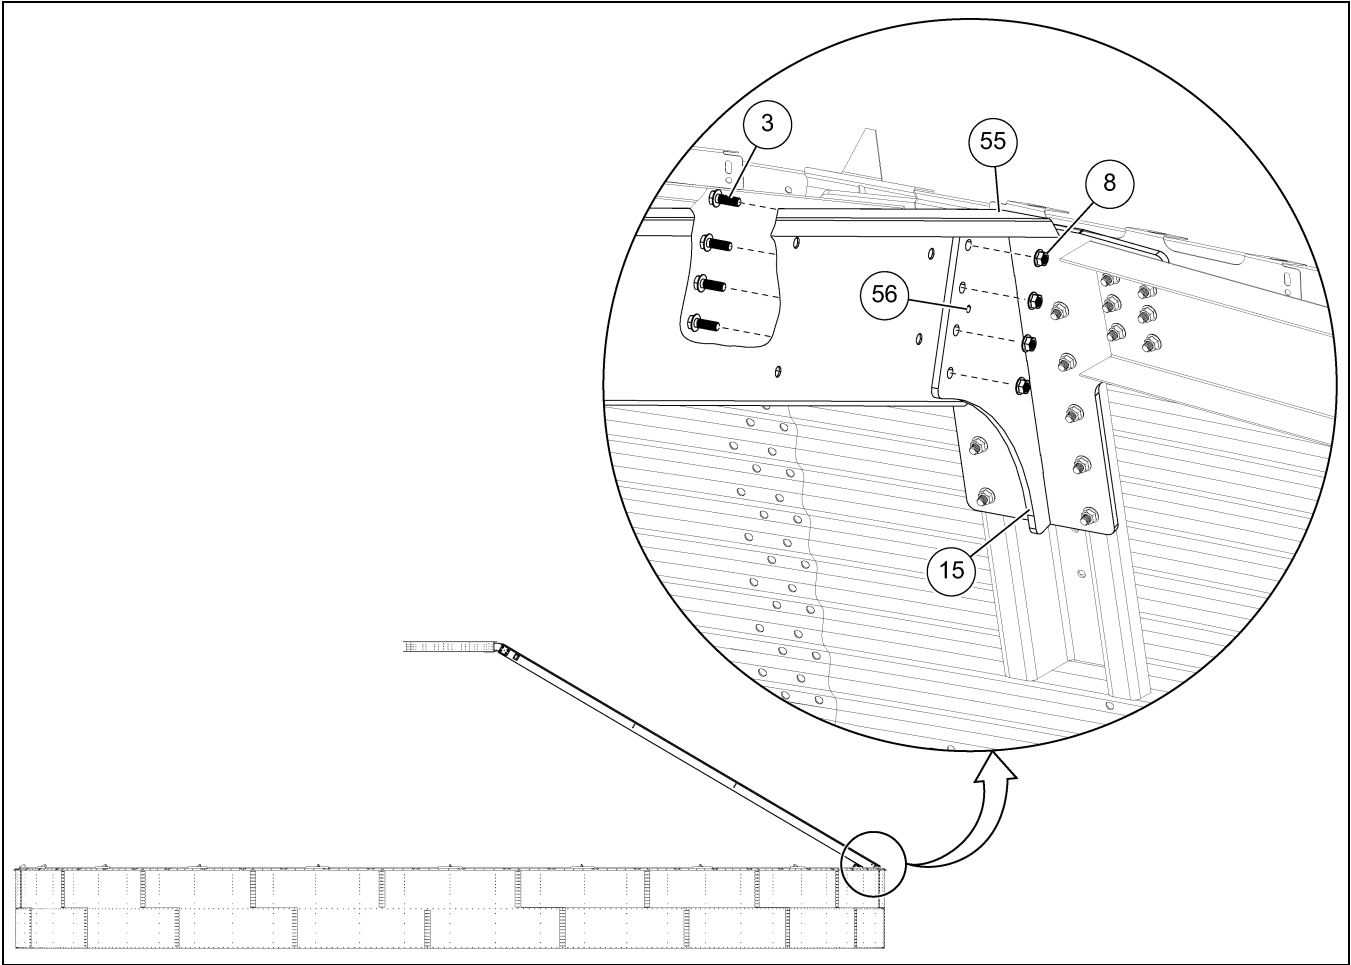

Figure 4L Attaching the Rafter to the Eave Bracket
- 1. Align the holes in the end of the rafter assembly with the holes in the eave bracket. (See Figure 4L.)